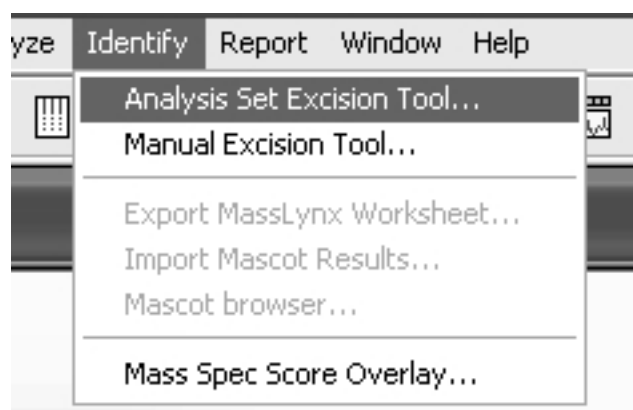

Figure 6-1. Identify pull-down menu
2. Click **Identify/Analysis Set Excision Tool** (see Figure 6-1) to open the Analysis Set Excision Wizard.